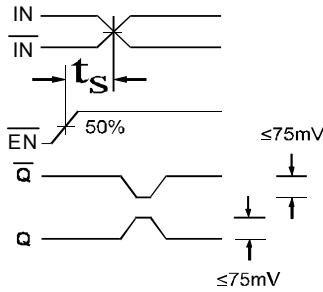

Figure 1. Setup Time
5. The setup time is the minimum time that \bar{EN} must be asserted prior to the next transition of IN/ \bar{IN} to prevent an output response greater than $\pm 75mV$ to that IN/ \bar{IN} transition (see Figure 1).